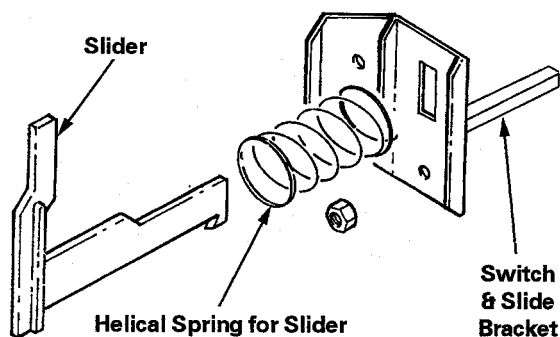

Figure 2-9
8. Remove helical spring from slider, *see Figure 2-9.*